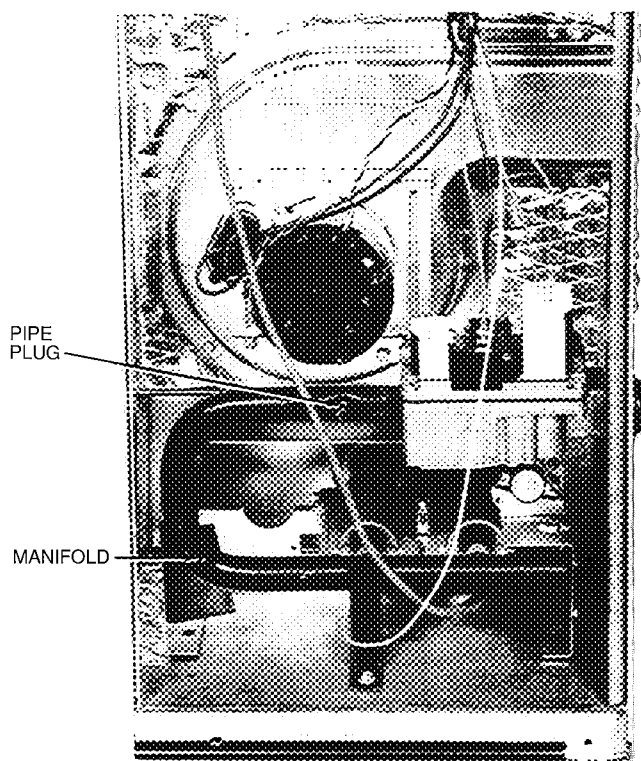

Fig. 22 — Burner Assembly
- Remove pipe plug on manifold (Fig. 22) then connect manometer at this point. Turn on gas to unit.
- Remove pipe plug on manifold (Fig. 22) then connect manometer at this point.